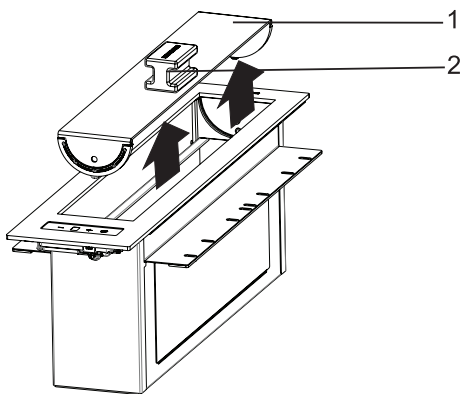

Fig. 21
- Attach the magnetized holder on the metal cap on the product (Fig. 21).
- Keep the metal cap parallel to the oven surface, remove by pulling towards the arrow (Fig. 21).
4. ➤ Pull back and remove the metal container upwards in the appliance (Fig. 21).